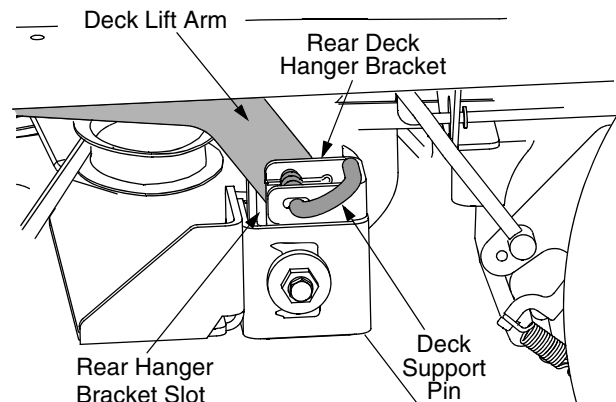

Figure 30
5. Locate the LH and RH deck support pins on each side of the deck. Pull the deck support pins outward and lock in the disengaged position to release the deck from the tractor's LH and RH deck lift arms. See Figure 30.
4. Maneuver the deck so that the slots in the two rear deck hanger brackets approximately align with the deck lift arms of the tractor. Refer to Figure 30.
6. Pull the deck support pins outward and maneuver the deck as necessary to align the holes in the deck lift arm with the pins. Refer to Figure 30.